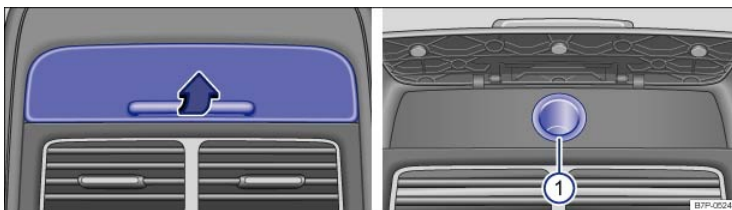

Fig. 125 Rear center console: Open cover for access to the 12 Volt socket.
- In the rear center console ⇒ Fig. 125① or ⇒ Fig. 127①.
- Reach into the recess from below ⇒ Fig. 125; fold the cover up in the direction of the arrow and hold it open.